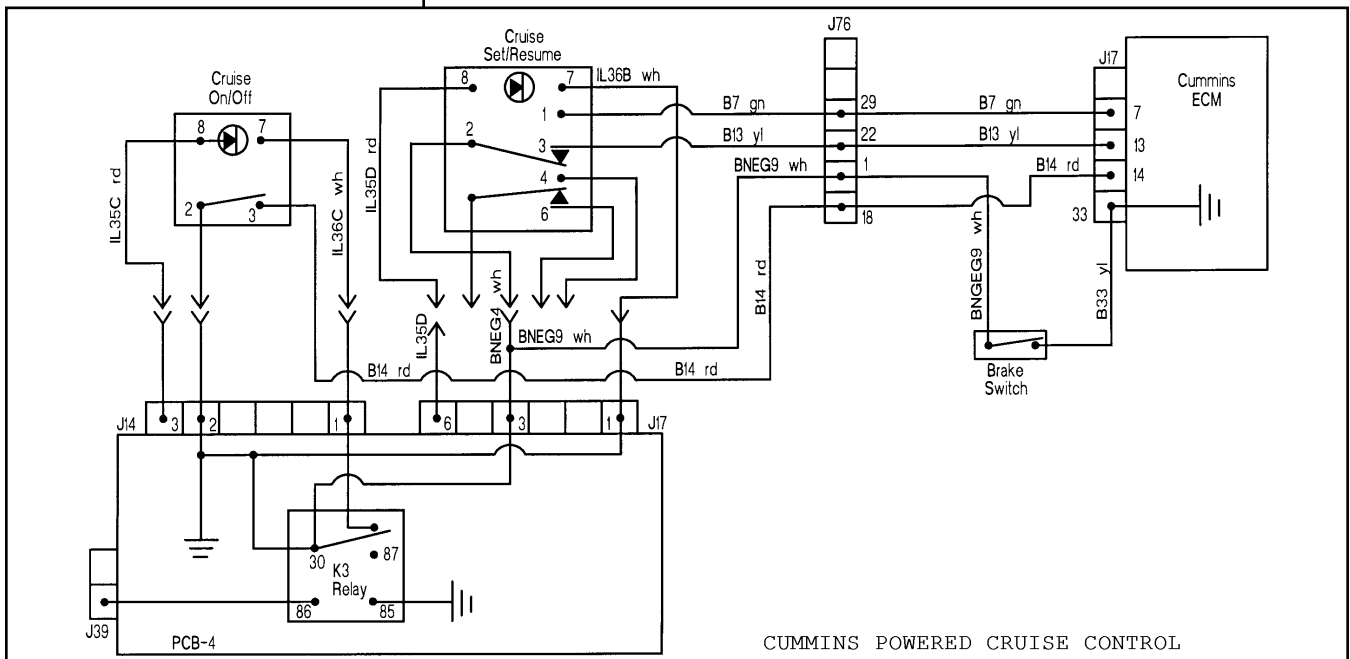

Figure 38
Figure 38 outlines the circuits involved in the cruise control. The schematic shows that the three (3) switches involved complete the ground circuits for the